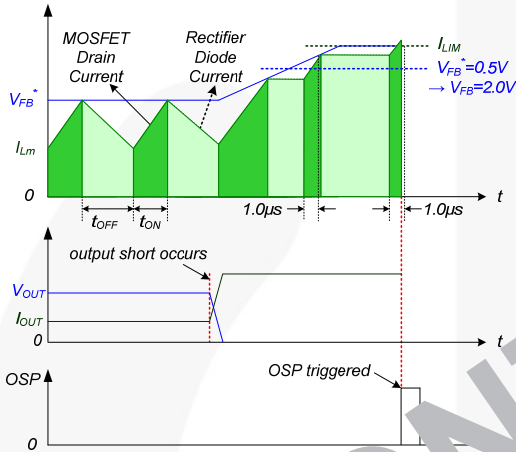

Figure 22. Output-Short Protection.
4.3. Output-Short Protection (OSP): If the output is shorted, steep current with extremely high di/dt can flow through the SenseFET during the minimum turn-on time. Such a steep current brings high-voltage stress on the drain of the SenseFET when turned off. OSP protects the device from this abnormal condition. It is comprised of detecting V_{FB} and SenseFET turn-on time. When the V_{FB} is higher than 2.0V and the SenseFET turn-on time is lower than 1.0 μ s, this condition is recognized as an abnormal error and PWM switching shuts down until V_{CC} reaches V_{START} again. An abnormal condition output short is shown in Figure 22.